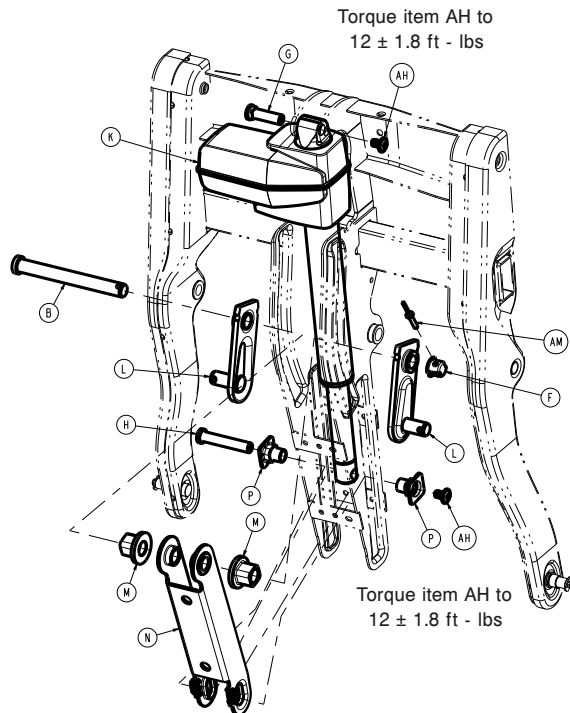

Figure 45 – Replacing the lift actuator
12. Using a ratchet and two T40 Torx drivers, remove the screw (AH) and lift foot pin (H) that secure the top of the actuator to the lift mechanism (Figure 45). Hold the lift foot pin in while you loosen the screw.